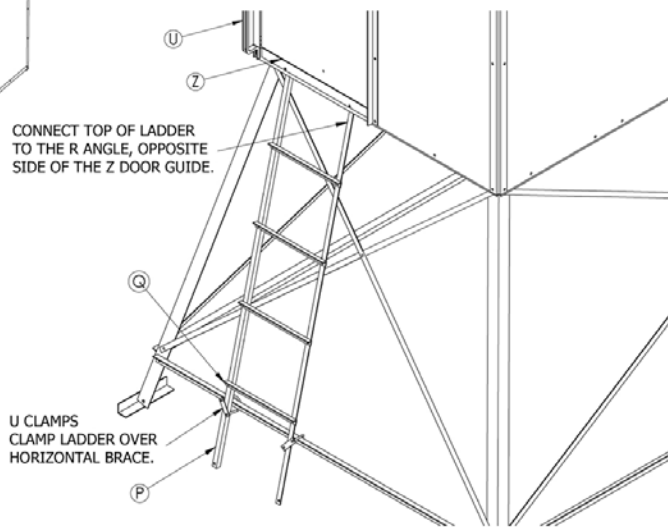

Figure 4
3. Attach the (U) handle to the (S) corner post nearest the door opening. Remove the first and second bolts from the bottom of the (S) corner post. Position the (U) handle and attach by reinstalling the bolts. (Fig. 4)
7. Assemble & install the ladder using bolts and U-bolts as pictured. Attach top two holes in ladder runners using existing bolts used to attach the "Z" plate, underneath the blind (opposite the "Z" and behind the angle iron supporting the floor). (Fig. 4)